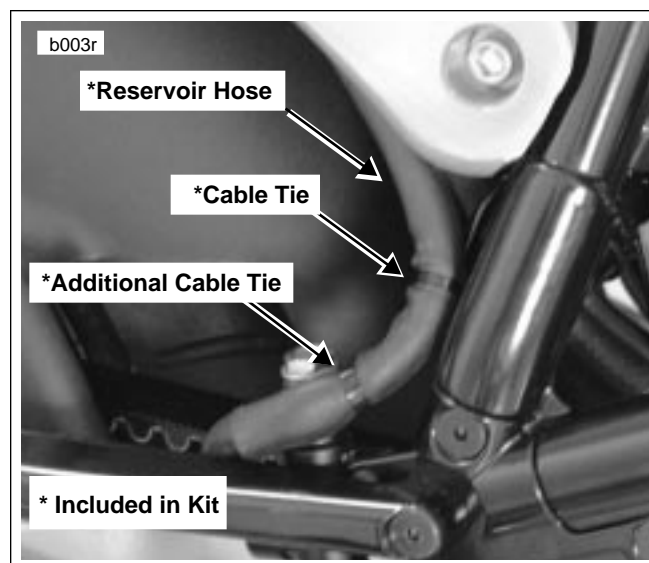

Figure 1. Rear Brake Line - Right Side
7. See Figure 1. Cut cable tie holding rear brake reservoir hose to rear brake line above rear master cylinder on right side of motorcycle.
22. See Figure 1. Inspect rear brake reservoir hose on right side of motorcycle for damage. Replace as required by installing **new** replacement hose provided in kit. If hose is undamaged, proceed to step 23.
23. See Figure 1. Install two cable ties (thick) to reservoir hose and rear brake line in **two** locations as shown in figure. Use care to avoid pinching hose.